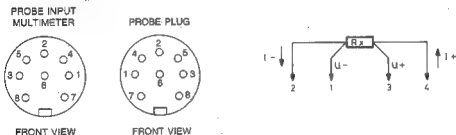

Fig. 16. Connector data of the PROBE input ( $^{\circ}\text{C}$ ).
- In the  $^{\circ}\text{C}$  function the Pt-100 probe PM9249 can be used. For connection of a Pt-100 element see fig. 16.